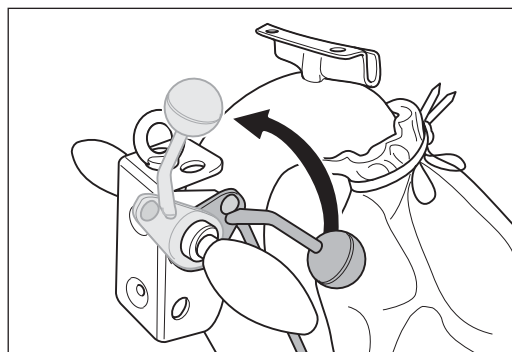

Fig. 29 Lift the sanding drum off the floor by turning the lowering lever at the handle upwards.
- 1 Before switch off the machine lift the sanding drum off the floor by turning the lowering lever at the handle upwards (Fig. 29).